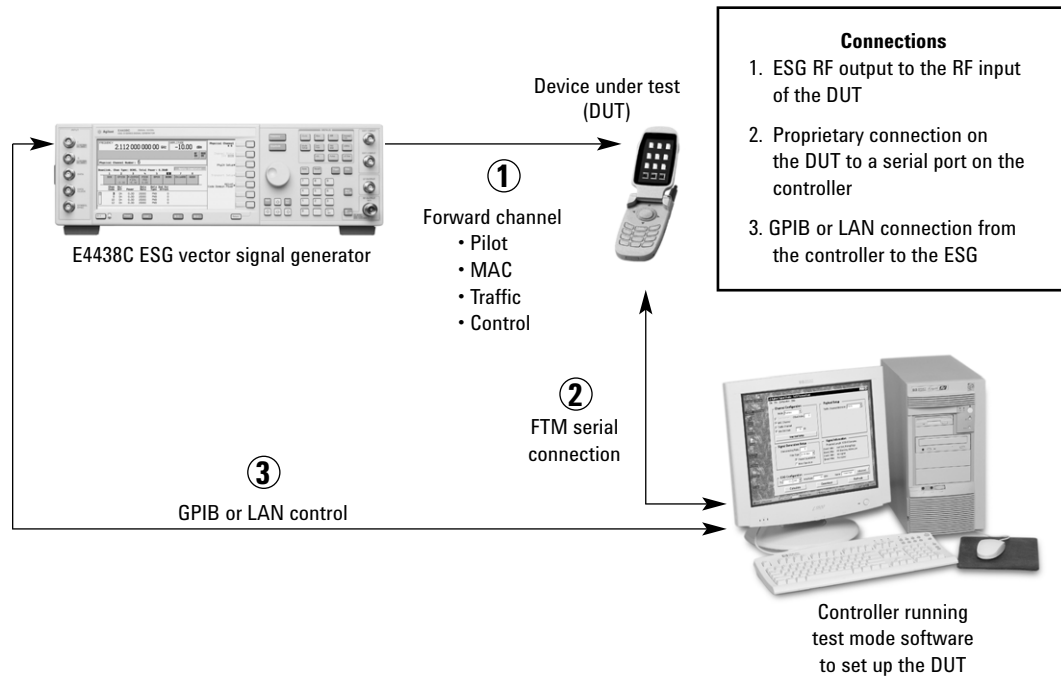

Figure 27. Typical measurement setup to perform AT receiver measurements
To illustrate the ease with which these tests can be performed, two examples are given below: channel power and ACP. Following these, an example AT receiver test setup is shown in Figure 27.
The E4438C ESG vector signal generator with the Signal Studio for 1xEV-DO software forward link FTM interface provides a fully coded forward link signal for access terminal (AT) receiver test. A typical test setup is shown in Figure 27. The PC controller is required to initiate factory test mode in the AT, step the AT through the call setup process (such as acquire pilot, acquire sync, and demodulate traffic channel), and perform PER analysis on the received signal from the ESG.
In Figure 27, the ESG provides a fully coded forward link signal for analysis. The controller is responsible for initiating FTM in the AT, stepping it through the call setup process, and performing PER measurements on the received signal.